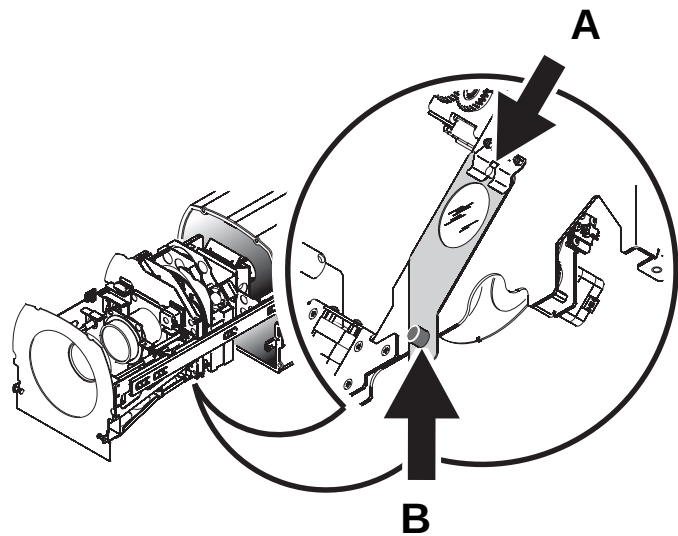

Figure 30: Permanent filterholder
See Figure 30. The filterholder is inserted from the bottom of the effects module and is held in position by clips (A) and a retaining bolt (B).